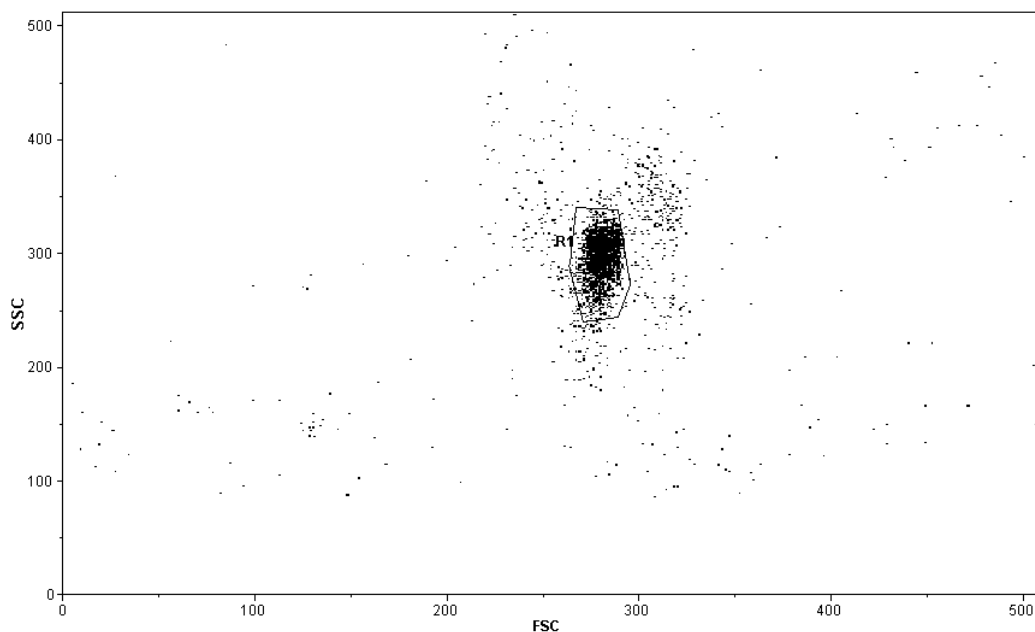

Figure 1. Forward scatter versus side scatter of Blank Beads. The gate has been set to collect bead singlets.
6. Using forward scatter versus side scatter, set a live gate on bead singlets (see Figure 1).
Analysis of results is confined to gated bead singlets clear of debris, as defined on a forward scatter versus side scatter dot plot (see Figure 1).